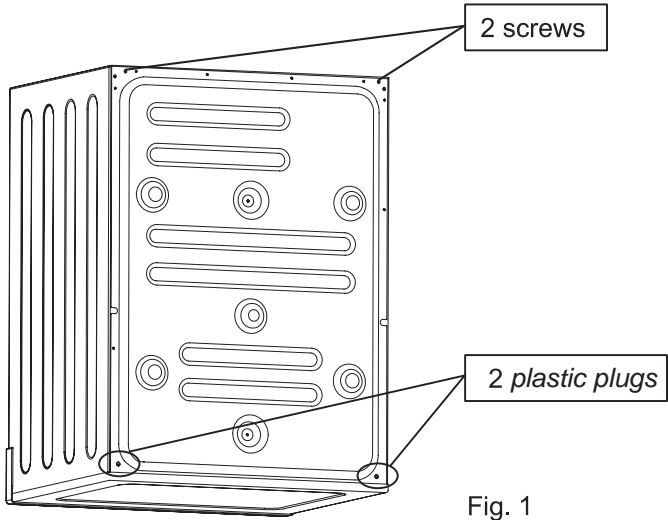

Fig. 1
3. Install the hooks to the dryer, in the inverted position, remove the 2 screws and 2 plastic plugs as indicated in Fig.1 .